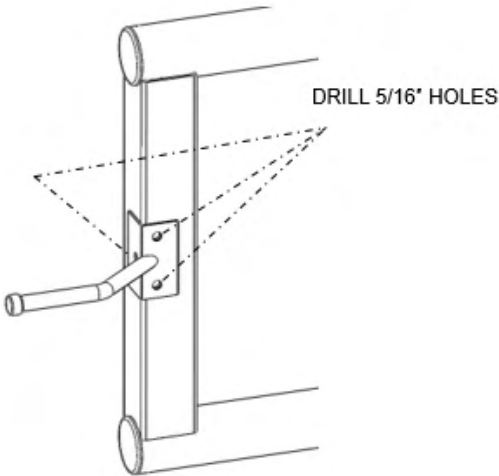

FIG. 7.17
7.8.6. Center the finger catch on the gate square tube opposite the hinge and mark center of holes with a pencil. Drill three 1/8" holes through one side of the vertical handrail tube (FIG. 7.17).